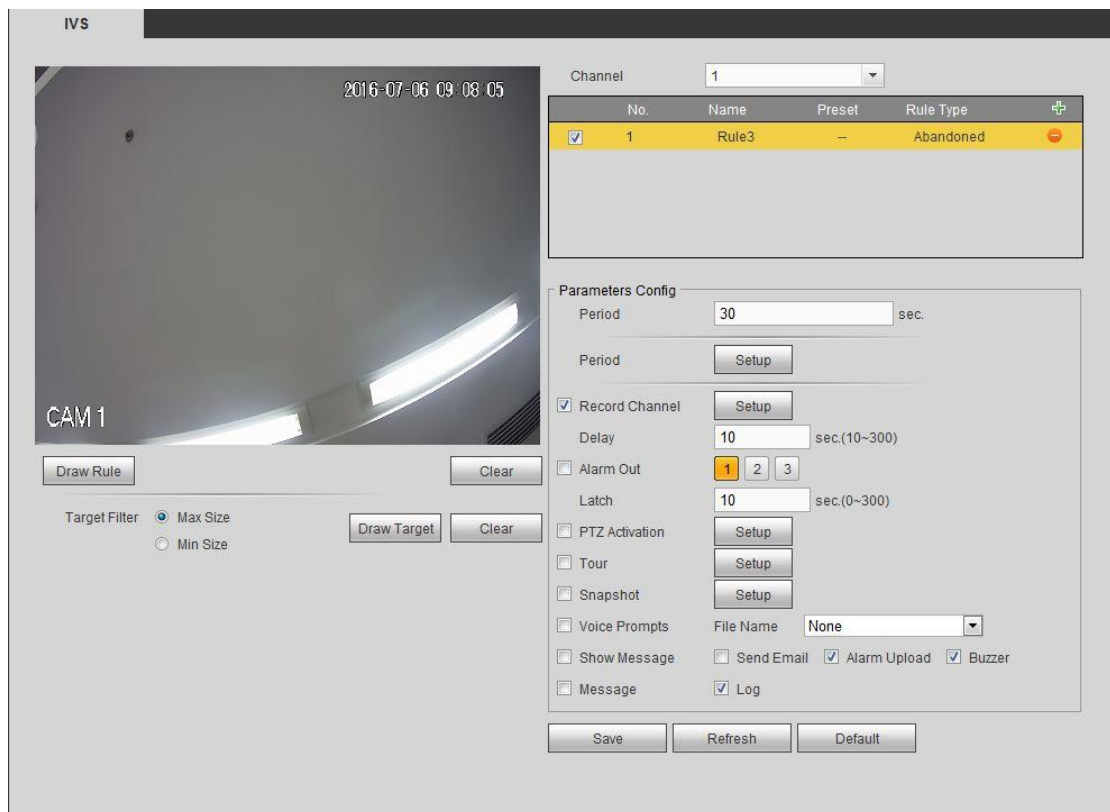

Figure 5-72
Step 2 Check the box to enable abandoned object detection function. See Figure 5-72.